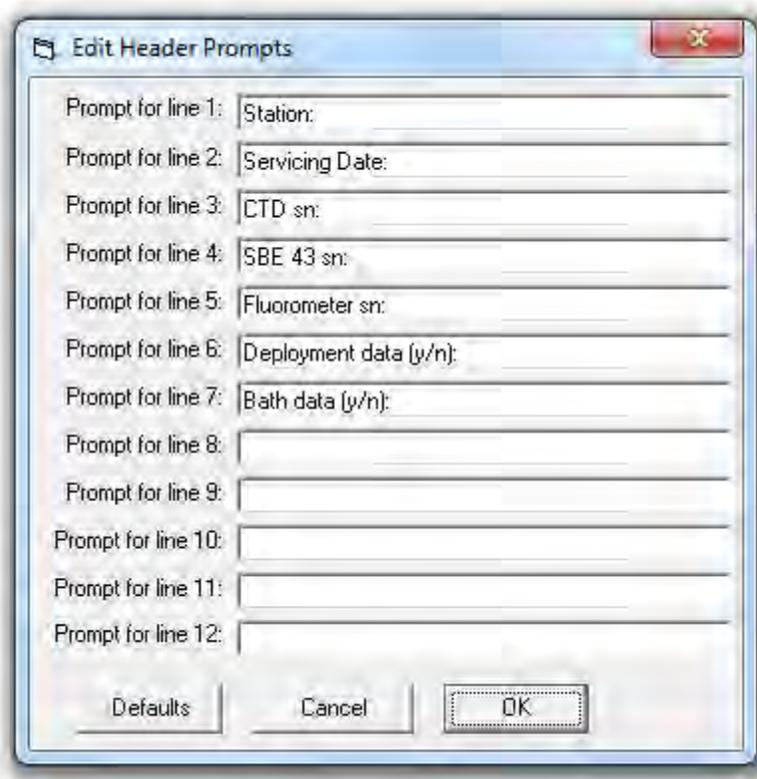

Figure 6. Image of Edit Header Prompts dialog box.
8. Confirm that the **Edit Header Prompts** dialog box has these entries in the **Prompt for lines** (Figure 6):